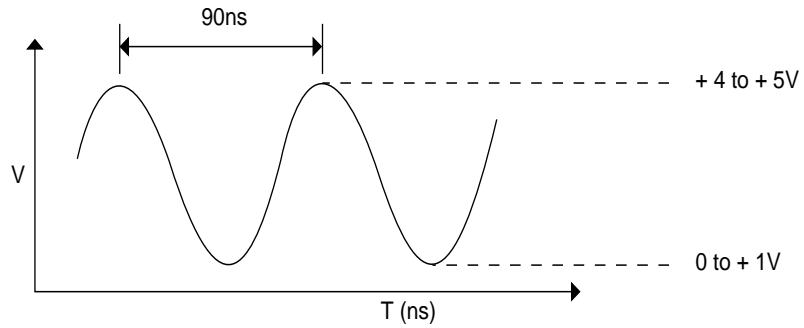

Figure C-3-1
• Is the OSC oscillation waveform as specified in Figure C-3-1?